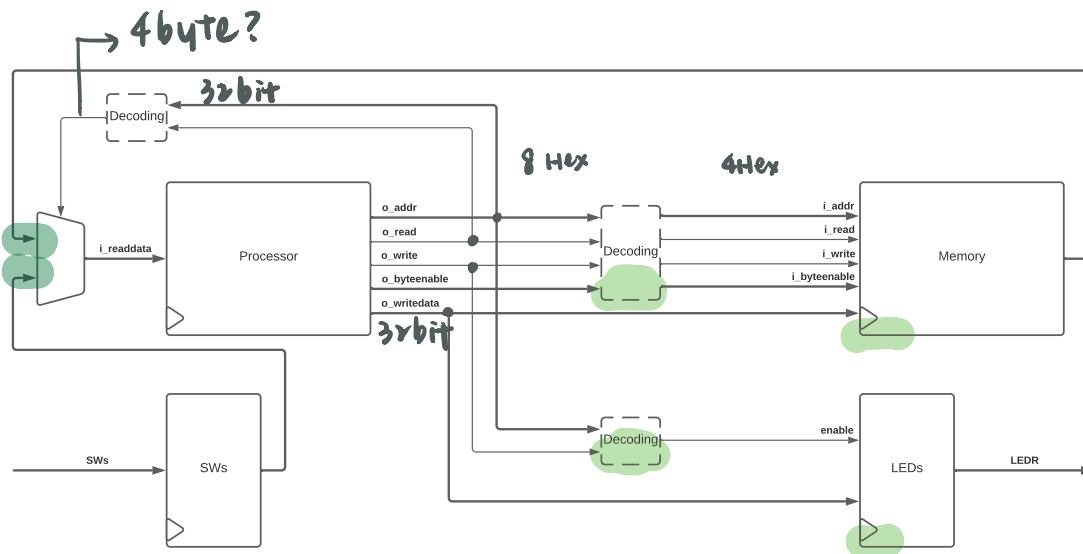

Figure 1: Part I Block Diagram
Figure 1 shows a block diagram of the system and its connections, omitting all the clock signals and the processor instruction interface. The processor can write to two devices (memory, and a register feeding the 8 red LEDs) and can read from two devices (memory, and a register capturing the 8 switches). This is decided based on the address emitted by the processor, and is performed by the blocks marked “decoding” in the figure, which you will need to create.
2. Implement the rest of the system shown in Figure 1, and using the memory map given in Table 1. Note that while there are address ranges assigned to the LEDs and switches, only the first address of each is actually used to read from or write to the switches and LEDs.